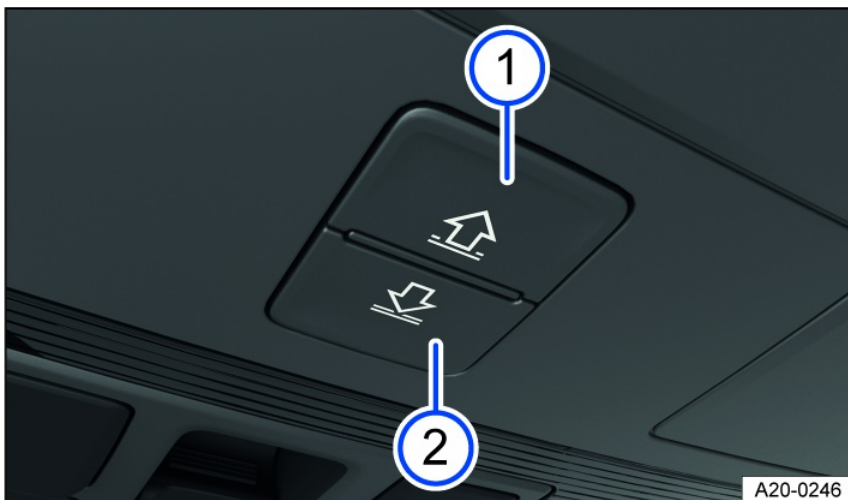

Fig. 82 In the headliner: buttons for controlling the sunshade.
The *fig. 82* and ② buttons have two detents. In the first detent, the sunshade can be opened or closed either completely or partially.
1. Within approximately five seconds after pinch protection is triggered, press and hold the fig. 82 button until the sunshade is completely closed.